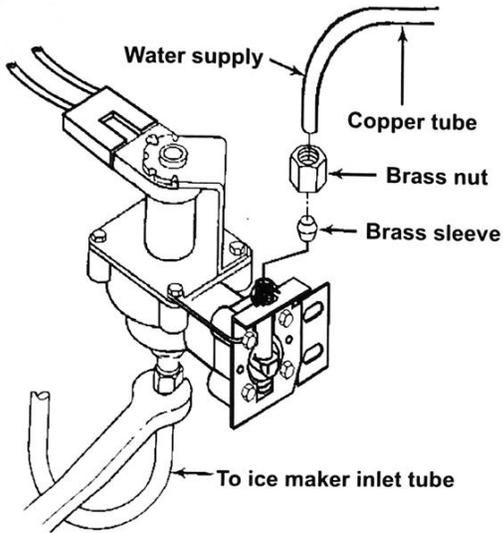

Figure 12
20. Tighten the plastic compression nut onto the valve threads. **(Be careful not to overtighten!)** See Figure 12.
21. To reinstall water supply line, you need to use one of your old brass nuts and brass sleeves. Remove plastic cap from valve to install water line. **(Do not overtighten.)** See Figure 12.